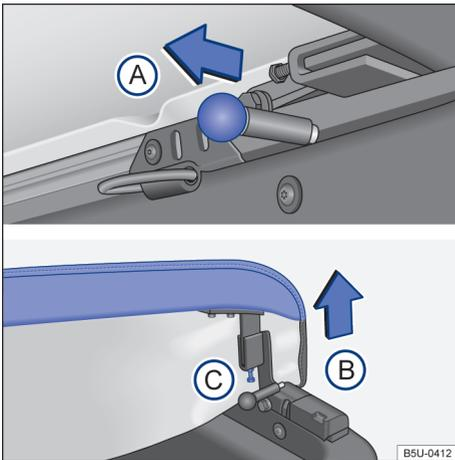
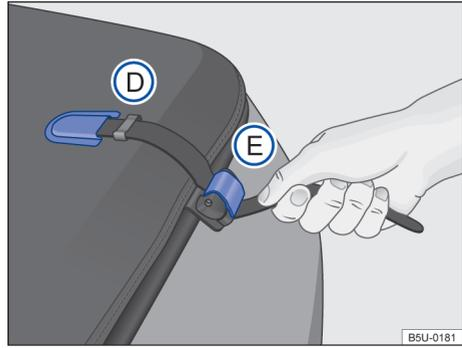

Fig. 48 Bed canvas stretching adjustment locks and bolt.
Fig. 49 Bed canvas attachment.
- Move the locking pin → Fig. 48 (A) in the direction of the arrow, in both sides, simultaneously.
- Lift the canvas edge in the direction of the arrow (B).
- To adjust stretching, release the nut and tighten the bolt or release the bolt (C) until reaching the desired stretching.
- Remove the belt end from the housing → Fig. 49 (D), on the sides of the bed cover, and force the belt downwards to unlock the lock (E).
- Insert the strap edges into the housing (D) to facilitate the bed cover retraction. ▶